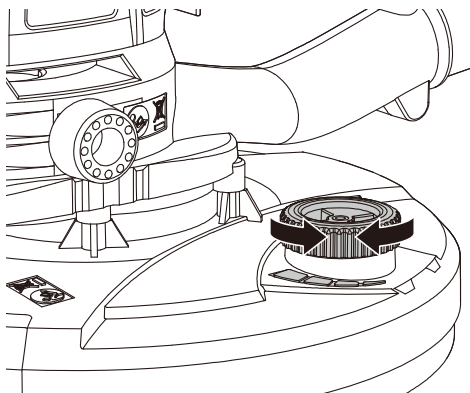

Figure 9
3. ADJUSTING SUCTION POWER (SEE FIG. 9)